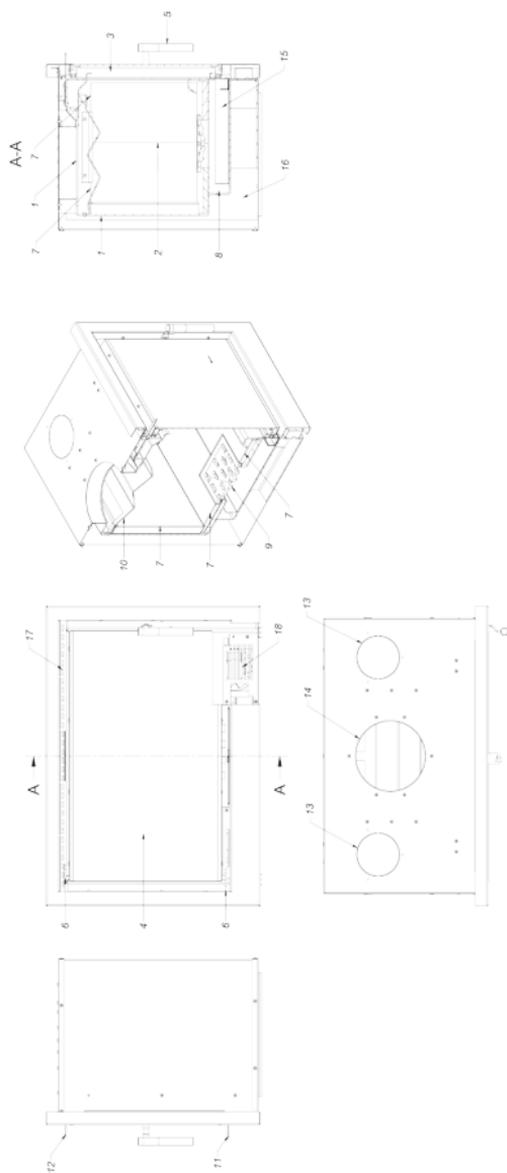

Fig. 3. RK cassette - construction diagram
The main part of the fireplace insert is the steel jacket (1) (Figure 3), where the combustion chamber (2) is located. The front wall of the combustion chamber is the steel door (3) with a homogeneous heat-resistant glass (4) and a handle (5). The door is mounted in the door frame with hooks (6). The combustion chamber is lined with Acumote (7). The base of the insert is a two-layer floor (8), the structure of which is simultaneously an air intake chamber. The air intake is realized by means of a throttle fitted with a control mechanism (11). Over the door, there is a throttle control handle in the centre of the device for air supply onto the glass (the air curtain) (12). The control handle (11), (12) moved all the way to the left means an open primary air supply, and when the handle is moved to the right it means that the air intake is closed. A cast iron grate (9) is mounted at the bottom of the stove. Waste: ash and unburned fuel are collected in a removable ash tray (15) underneath the grate. The ash left in the combustion chamber shall be removed with a dustpan and a brush, a fireplace vacuum cleaner or an attachment to an industrial vacuum cleaner. There is a steel deflector (10) above the combustion chamber. The deflector is a limiter for the flow of exhaust gas, intensifying the heat exchange. While firing, the flue gases wash the walls of the combustion chamber, pass under the deflector and continue to flow into the flue pipe (14) and pass through the duct to the chimney.